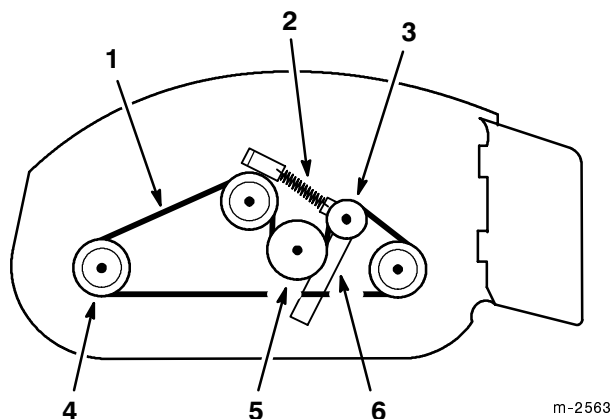

Figure 26
4. Install the new deck belt around the three spindle pulleys, gearbox output pulley and deck idler pulley (Fig. 26).
5. Reconnect the deck idler arm spring (Fig. 26).